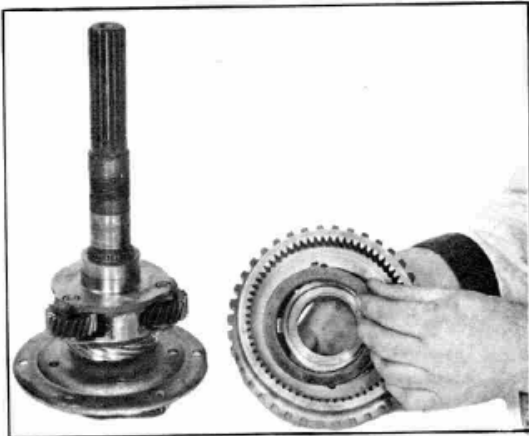

Figure 29
1. Hold the reverse center gear (5) in the left hand with the drive flange up; install the steel thrust washer (15), and then the bronze thrust washer (14) in the recess of the drive flange.
2. Still holding the reverse center gear in the left hand, pick up the output shaft (6) with the right hand; insert the output shaft end through drive flange and center gear until carrier bottoms on the two thrust washers.
5. Install the reverse planet carrier (25) over the output shaft with the bronze drive gear down, meshing pinions with the sun gear. (Determine that the unit is bottomed against the reverse planet carrier snap ring.)
7. Install the reverse clutch release flat (wave) spring (10) and spring retainer (9) on the reverse internal gear (8) on the internal gear side, Figure 29.